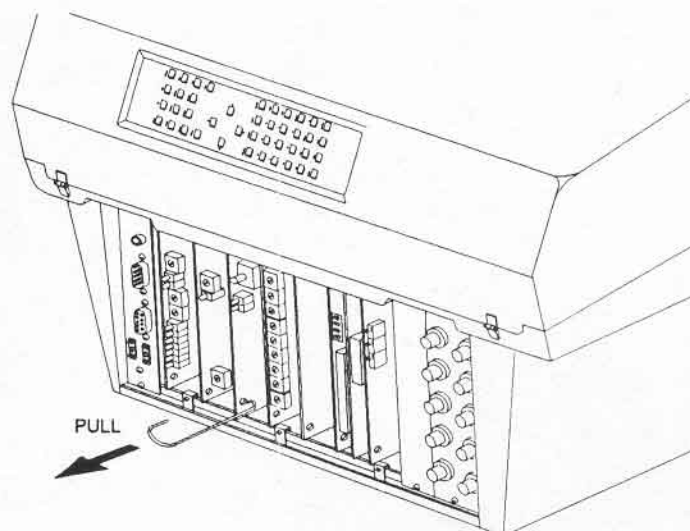

Figure 3-3. Card Rack Module Removal
The *ECP* extender card allows service technicians to physically extend *ECP* projector card rack modules to fully expose circuit components for testing and diagnosis. See Figure 3-3 below. To obtain an ECP extender board, call Electrohome. Ask for part number 03-230330-01P
- c) Each card rack card rack mounted module has a hole located at its outer top and/or bottom corners. Remove the printed circuit board extractor from the tool pouch located beneath the front top cover. Insert the hook of the extractor into one of the holes of the module to be removed. Refer to Figure 3-3. Pull the module out of the projector.